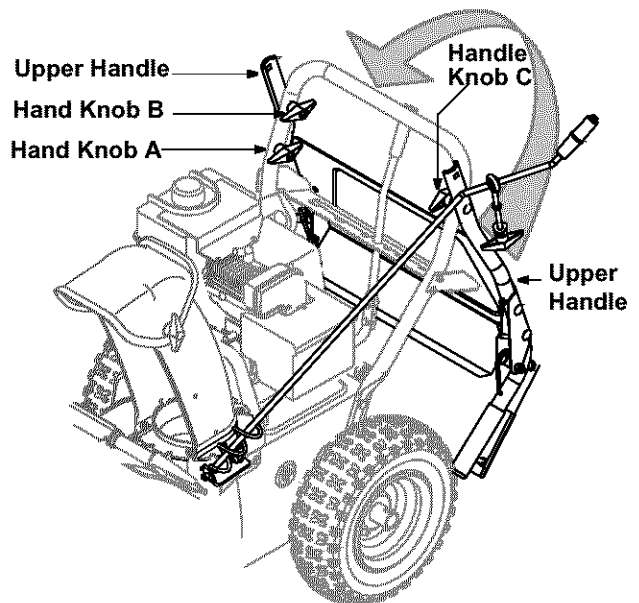

Figure 1
2. Remove hand knob A, cupped washer and carriage screw from the lower handle. See Figure 1. Save the hardware.
3. Loosen hand knobs B and C, shown in Figure 1, but do not remove from the unit.
4. Raise the handle assembly up following direction of the arrow in Figure 1. Make sure not to scrape the paint on the unit by the eyebolt when you flip the handle up.